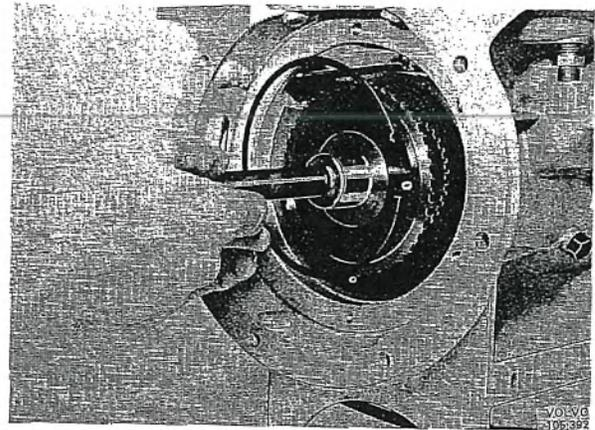

Fig. 4-106. Installation sequence, front clutch snap ring, input shaft and thrust washer
18. Fit the pressure plate, inner and outer plates, and hub. Fit the thrust washer for the clutch hub and input shaft into the front clutch, see Fig. 4-106. Fit the snap ring.